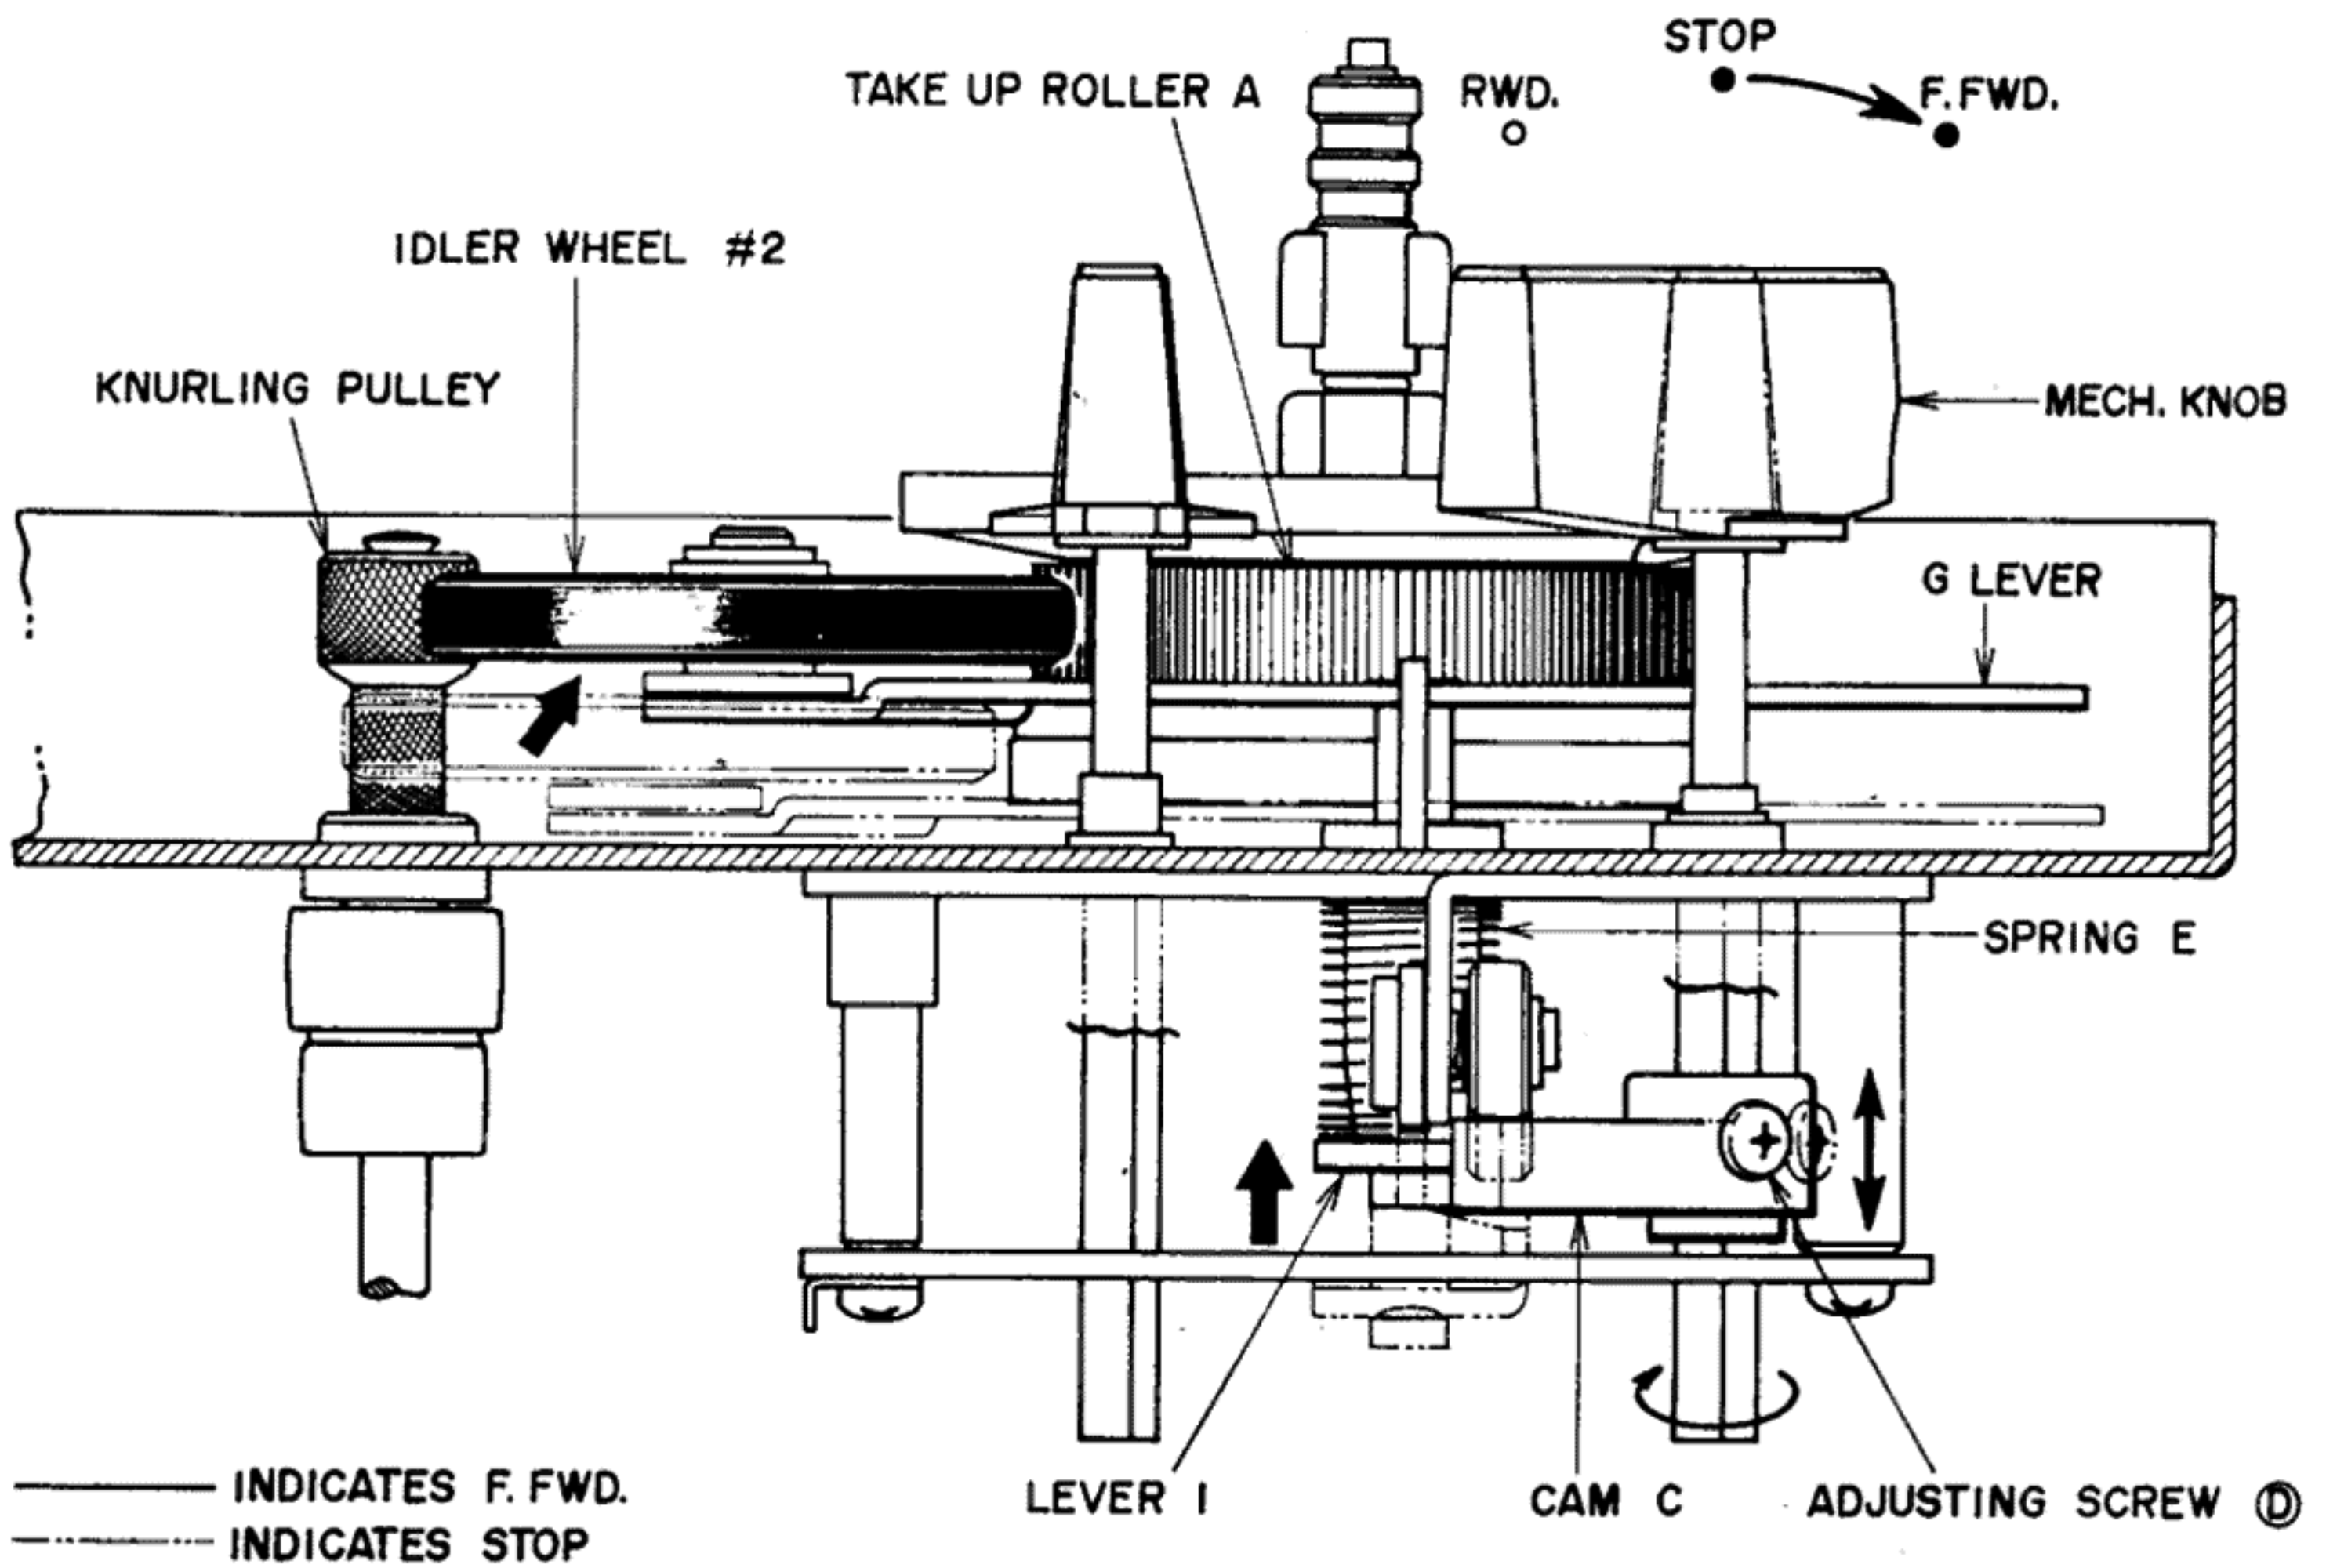

Fig. 14
6. ADJUSTMENT OF IDLER #2 POSITION AT FAST FORWARD MODE (See Fig. 14)
Move Cam ③ shown in Fig. 14 up and down as indicated by the arrow mark (←→) in the figure and adjust Lever ④ height so that Idler #2 contact between Take Up Roller A and the knurling Pulley is uniform when the F.FWD/RWD Lever is set to F.FWD position. Fix at adjusted position with Adjustment Screw ⑤. During operation, confirm that the rotating position of Idler #2 is ideal.